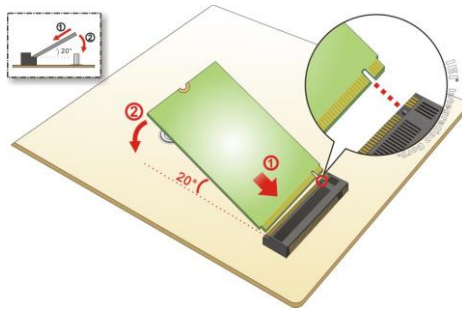

Figure 3-3: Inserting the M.2 Module into the Slot at an Angle
Step 3: Line up the notch on the module with the notch on the slot. Slide the M.2 module into the socket at an angle of about 20° (Figure 3-3).